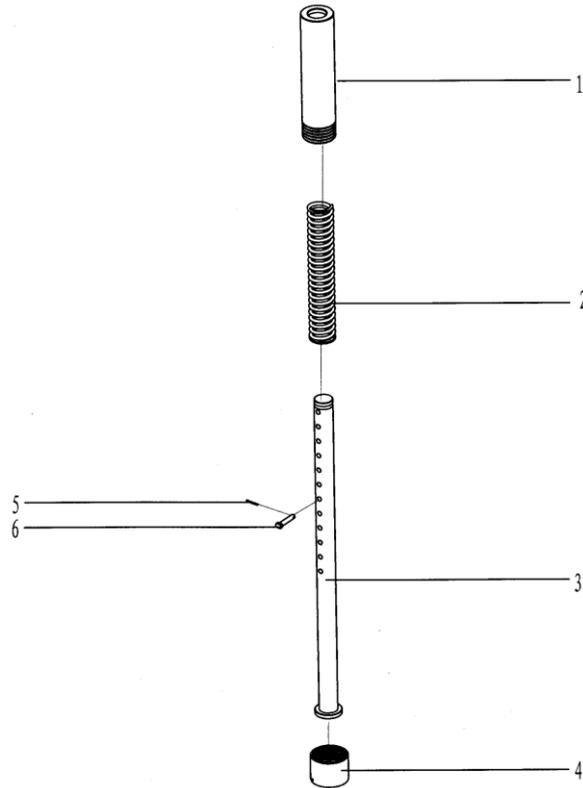

Fig13. Fore guide pole assembly
7.5 Back guide pole assembly (Fig13. Table13)